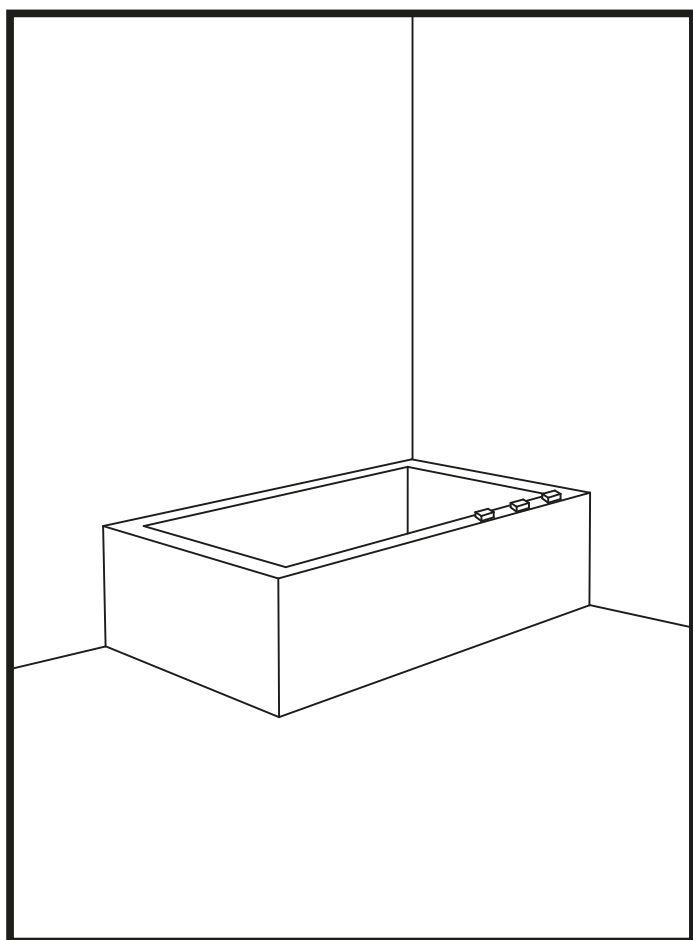

Figure 3
3. Place wooden blocks (maximum thickness 10 mm) on the edge of the bathtub to support the bathtub glass included in the package. (Fig 3)